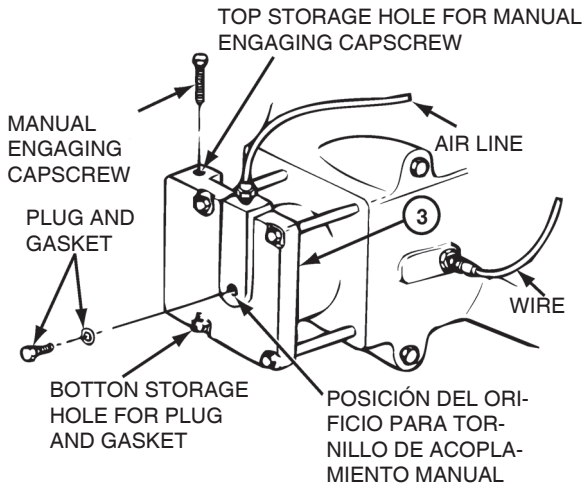

Figure 11.5
10. Remove the manual engaging capscrew from the storage hole. The storage hole of threaded shift assemblies is located in the shift tower of the differential, next to the cylinder. Figure 11.5.
11. Remove the plug and gasket from the storage hole. Install the plug and gasket into the threaded hole in the center of the shift cylinder cover. Tighten to 15-25 lb-ft (20-35 Nm). Figure 11.5. **T**
9. Install the manual engaging capscrew into the storage hole. The storage hole of bolted on shift assemblies is located in the top side of the shift cylinder cover. Tighten the capscrew to 15-25 lb-ft (20-35 N m). Figure 11.5.